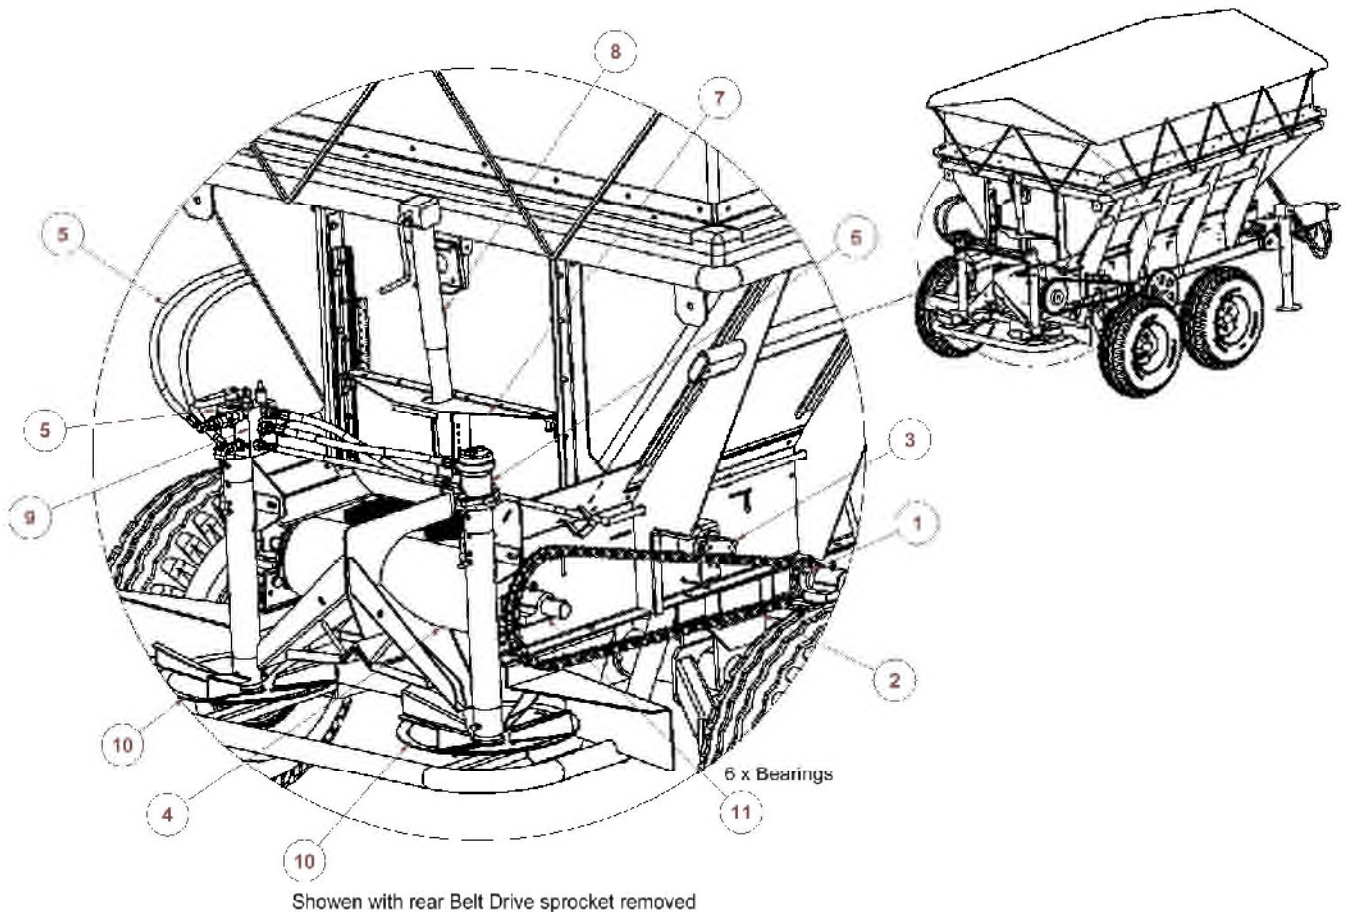

Figure 3 – Safe Operation
10. Check the condition and operation of the drive gears (Large and Small) (1) the chain (2) Belt tensioner (3) and feed belt (4) (Fig 3).
11. Check hydraulic hoses (5) and hydraulic motors (6) for damage and hydraulic fluid leaks (Fig 3).
12. Check the operation of the fertiliser shutter (7) and handle mechanism (8) (Fig 3).
13. Check the operation of the hydraulic system control block (9) and check for leaks (Fig 3).
14. Check the condition and operation of the spinners (10) (Fig 3).
15. Check the conditions of the bearing blocks (11) (Fig 3).
16. Check main chain/belt tension by holding a straight-edge underneath spreader between front and rear sprockets. Chain should sag on slack side of chain no less than 20mm and no greater than 60mm. Insure chain tensioner (3) is applying some pressure to the chain. (Fig 3)